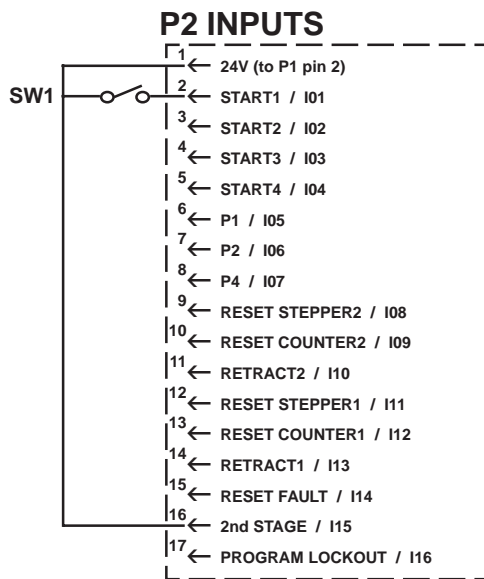

Figure 9-1. *Initiation switch connection*
1. Connect initiation switch SW1 to connector P2 as shown in Figure 9-1.